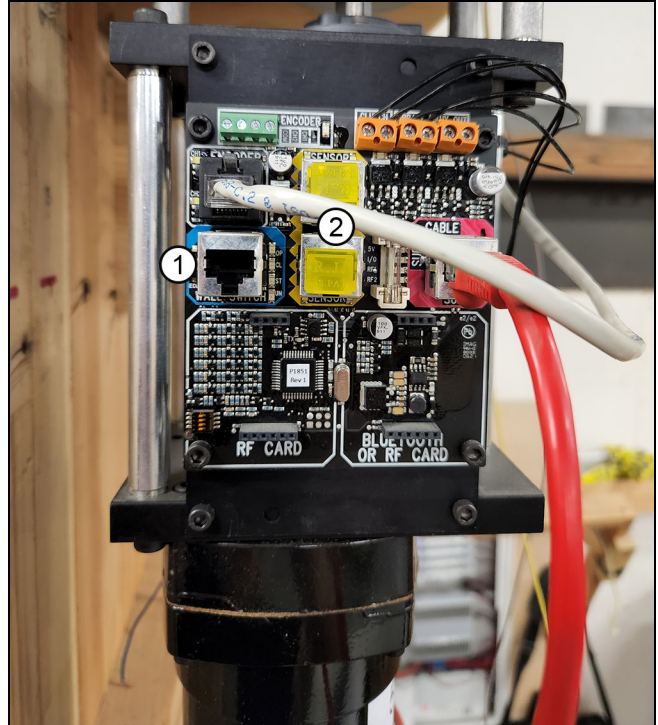

Figure 35
2. **Sensors:** connect the yellow CAT5e to the corresponding sensor port on the motor. See Figure 3 and Figure 35.